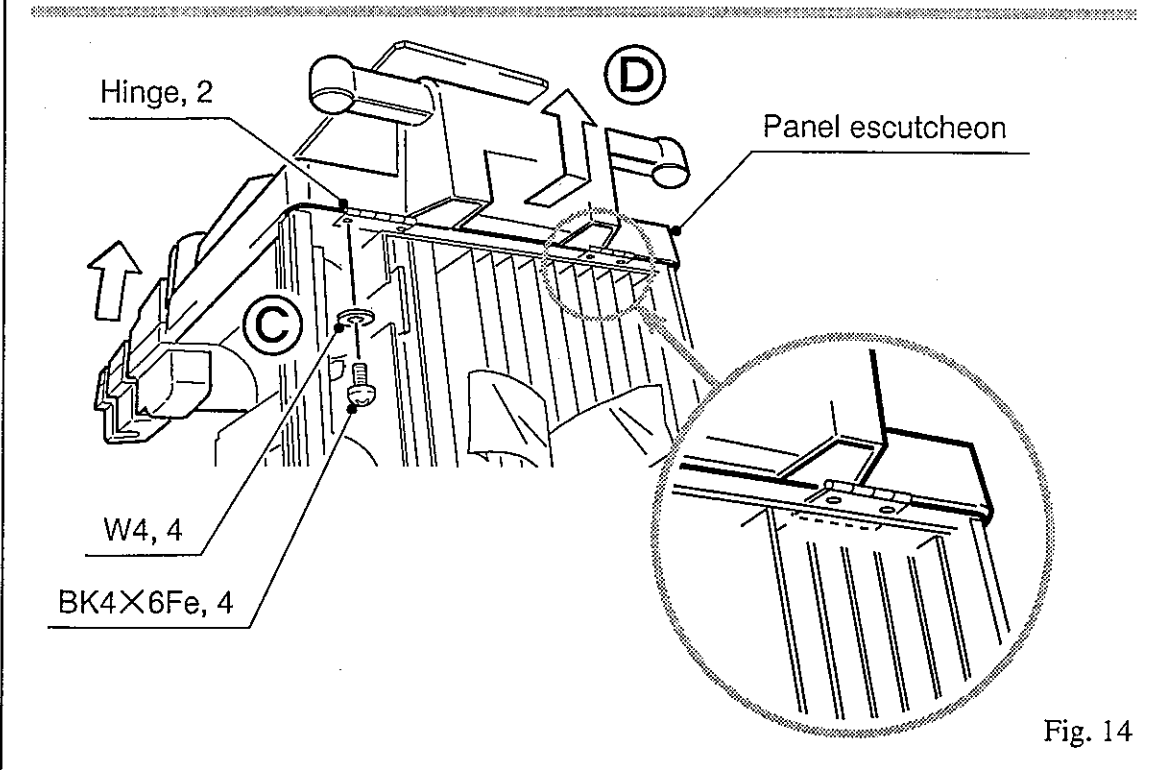

Fig. 14
(15) Unfasten 4 screws and remove 4 washers, both on hinge in the rear of panel escutcheon. (C in fig. 14)
(16) Slide panel escutcheon rearward while keeping it slightly raised in front. And remove. (D in fig. 14)